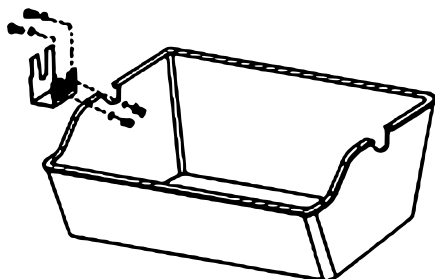

Figure 1
1. Attach the motor support to the side of the combustion zone of the grill (**Fig. 1**).